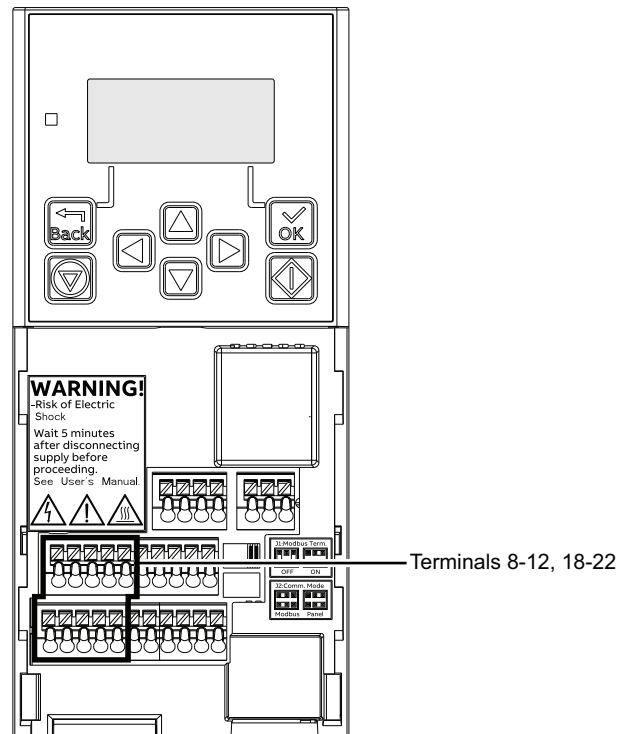

Fig. 58 — Digital Input Terminal Block Location on ACH180 VFD
3. Disconnect the DI1 input at Terminal 8 (see Fig. 58 for location of DI1).